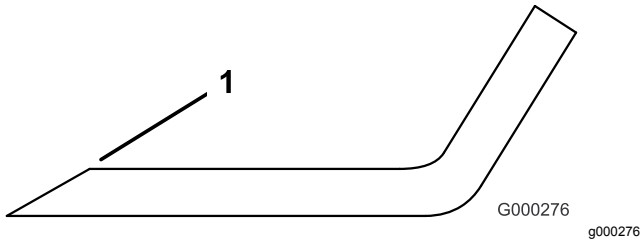

Figure 67
1. Use a file to sharpen the cutting edge at both ends of the blade (Figure 67).